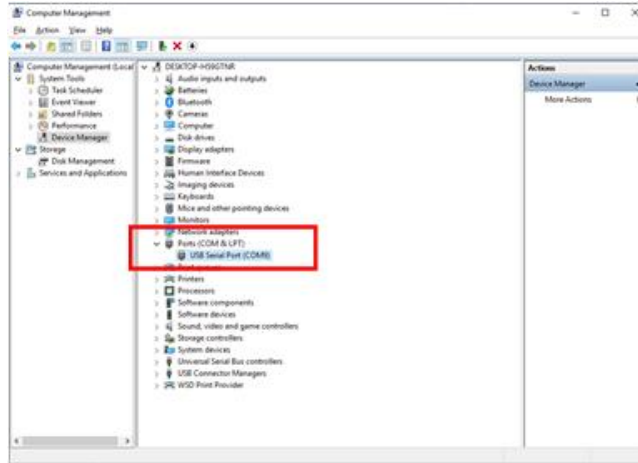

Fig.3.34
4) Select 'Ports (Com & LPT)', and check the USB Serial Port (Fig.3.34).